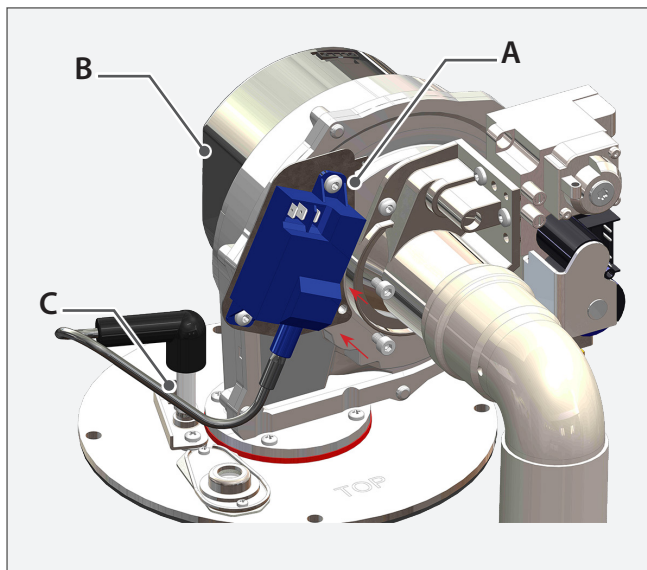

Fig. 9 - Spark Generator and Bracket (PT 175)
2. Locate the spark generator with bracket (A) on the blower (B). (See Fig. 9), and secure using 2 of the venturi-to-blower screws.
3. Connect the spark generator cable with connector (C) to the new igniter.